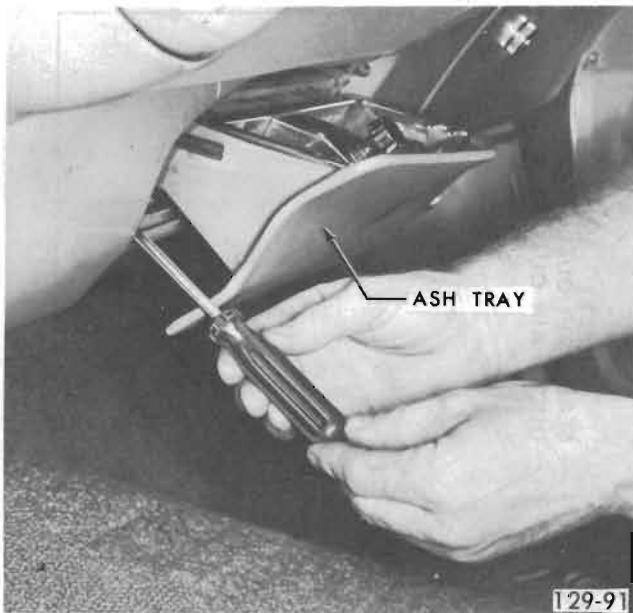

Figure 129-6
4. Remove the ash tray by unscrewing (4) screws and pulling the ash tray and frame from the instrument panel. See Figure 129-6.